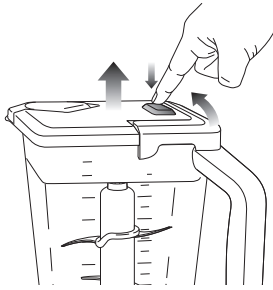
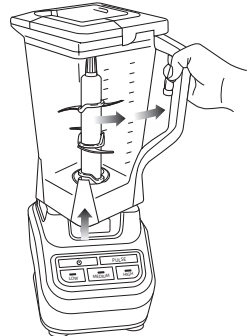

Fig. 7
Fig. 8
- 13 To remove the lid, press the release button on the lid, pull the lid handle up to a 90° angle and lift the lid off. Turn the pitcher counter clockwise and then lift off the base. (Fig. 7, Fig. 8)